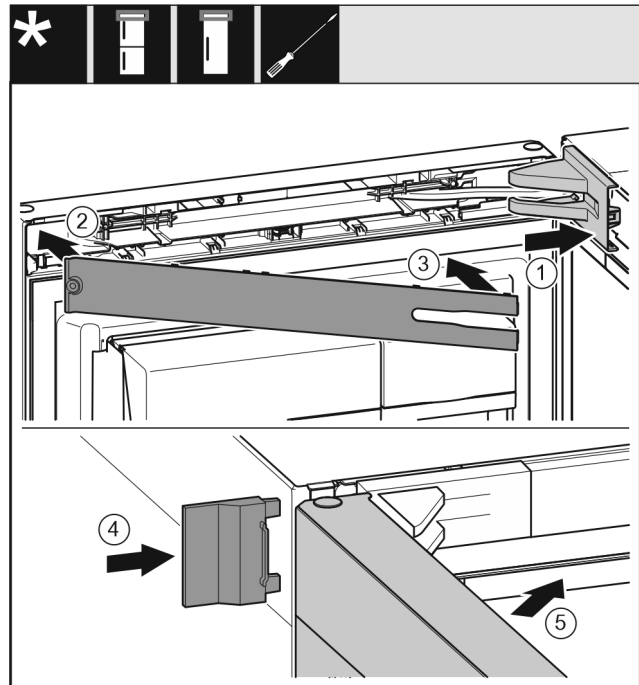

Fig. 48
- ▶ Position the bearing bracket cover and engage it. If necessary push it apart carefully. Fig. 48 (1)
- ▶ Place on the panel. Fig. 48 (2)
- ▶ Swing in the panel and latch it into place. Fig. 48 (3)
- ▶ Slide on the outer cover. Fig. 48 (4)
- ▶ Close the upper door. Fig. 48 (5)